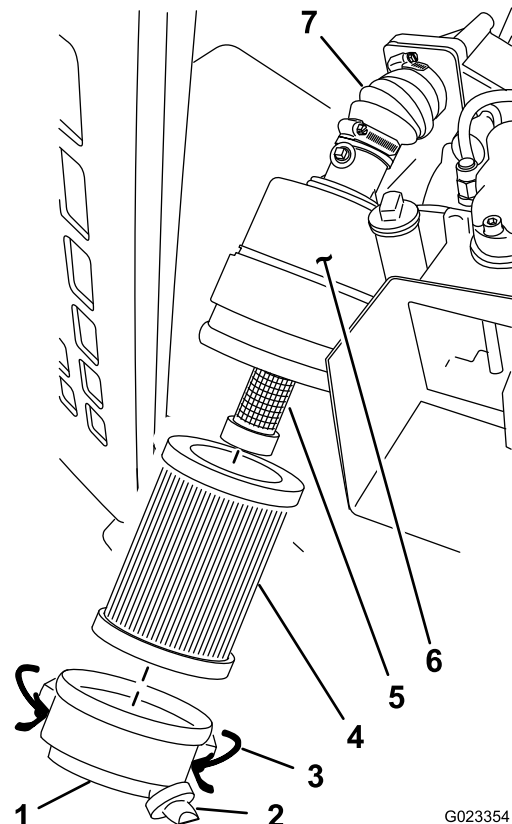

Figure 60
3. Release the latches on the air-filter cover and pull it off of the air filter housing (Figure 60).
- A. Install the air filter cover with the dust cap facing down and back, and secure the latches on the filter cover (Figure 60).
1. Release the latches on the air-filter cover and pull it off of the air-filter housing (Figure 60).
2. Gently remove the primary-air filter from the air-filter housing (Figure 60).
3. Gently remove the secondary-air filter from the air-filter housing (Figure 60).
5. Install the secondary-air filter into the air-filter housing (Figure 60).
6. Install the primary-air filter into the air-filter housing (Figure 60).
7. Install the air-filter cover with the dust cap facing down and back, and secure the latches on the filter cover (Figure 60).